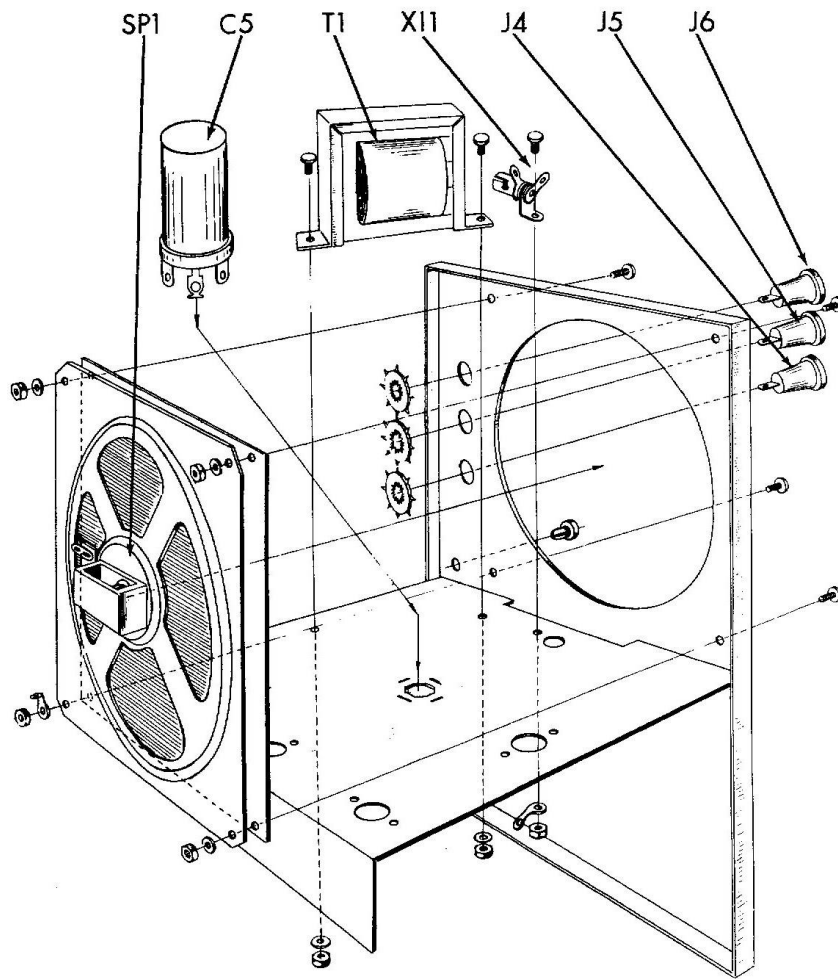

Fig. 2
1. () Fig. 2. Mount the three red pin jacks, J4, J5 and J6 through the three holes marked P, B+ and P as shown. Similar to the above, use one star washer to secure each pin jack to the panel.
2. () Fig. 2. Mount the speaker, SP1 as shown. Place the flocked screen between the speaker and the panel. Use four #6-32 x 1/4 screws, one #6 ground lug, three #6 lockwashers and four #6-32 hex nuts. Note direction of solder lug.
3. () Fig. 2. Press the pilot light jewel firmly into the hole at the front of the panel.
5. () Fig. 2. Mount the pilot light bracket X11, as shown. Use one #6-32 x 1/4 screw, one #6 ground lug and one #6-32 hex nut. Do not tighten as yet.
6. () Fig. 2. Mount the output transformer T1, 32009, as shown. Use two #6-32 x 1/4 screws, two #6 lockwashers and two #6-32 hex nuts. All leads facing the outside edge of chassis.
7. () Fig. 2. Tighten the nut on the pilot light bracket, X11. Turn the bracket so that it does not short against the output transformer, while at the same time permitting the insertion of a pilot light.
8. () Fig. 2. Mount the electrolytic capacitor C2, as shown. Note the position of the three code markers (triangle, semi-circle and square) next to the prongs on the capacitor. Insert the mounting tabs into the slots in the chassis and twist the tabs somewhat less than a quarter turn. DO NOT twist the tabs excessively or they will shear off. See Fig. 4. Solder the tab without a hole to the chassis at its slot.